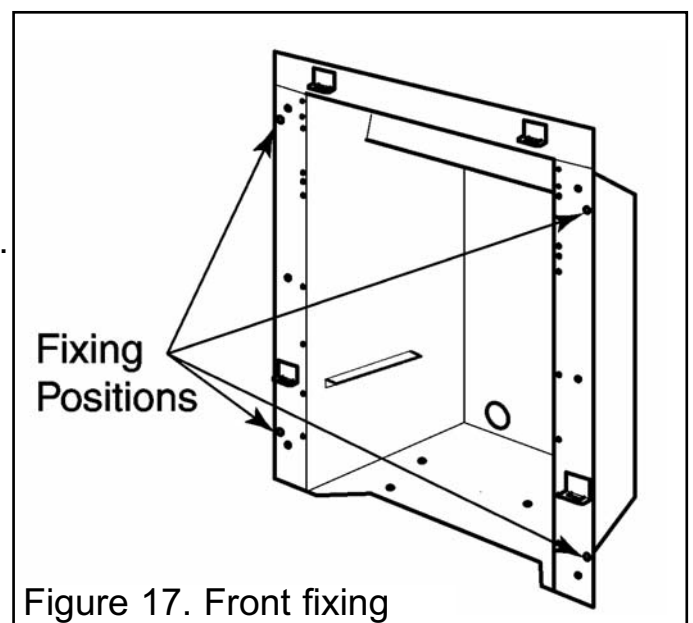

Figure 17. Front fixing
3. Mark the fireplace front surround through the four fixing holes in the side flanges of the hotbox (See figure 17).